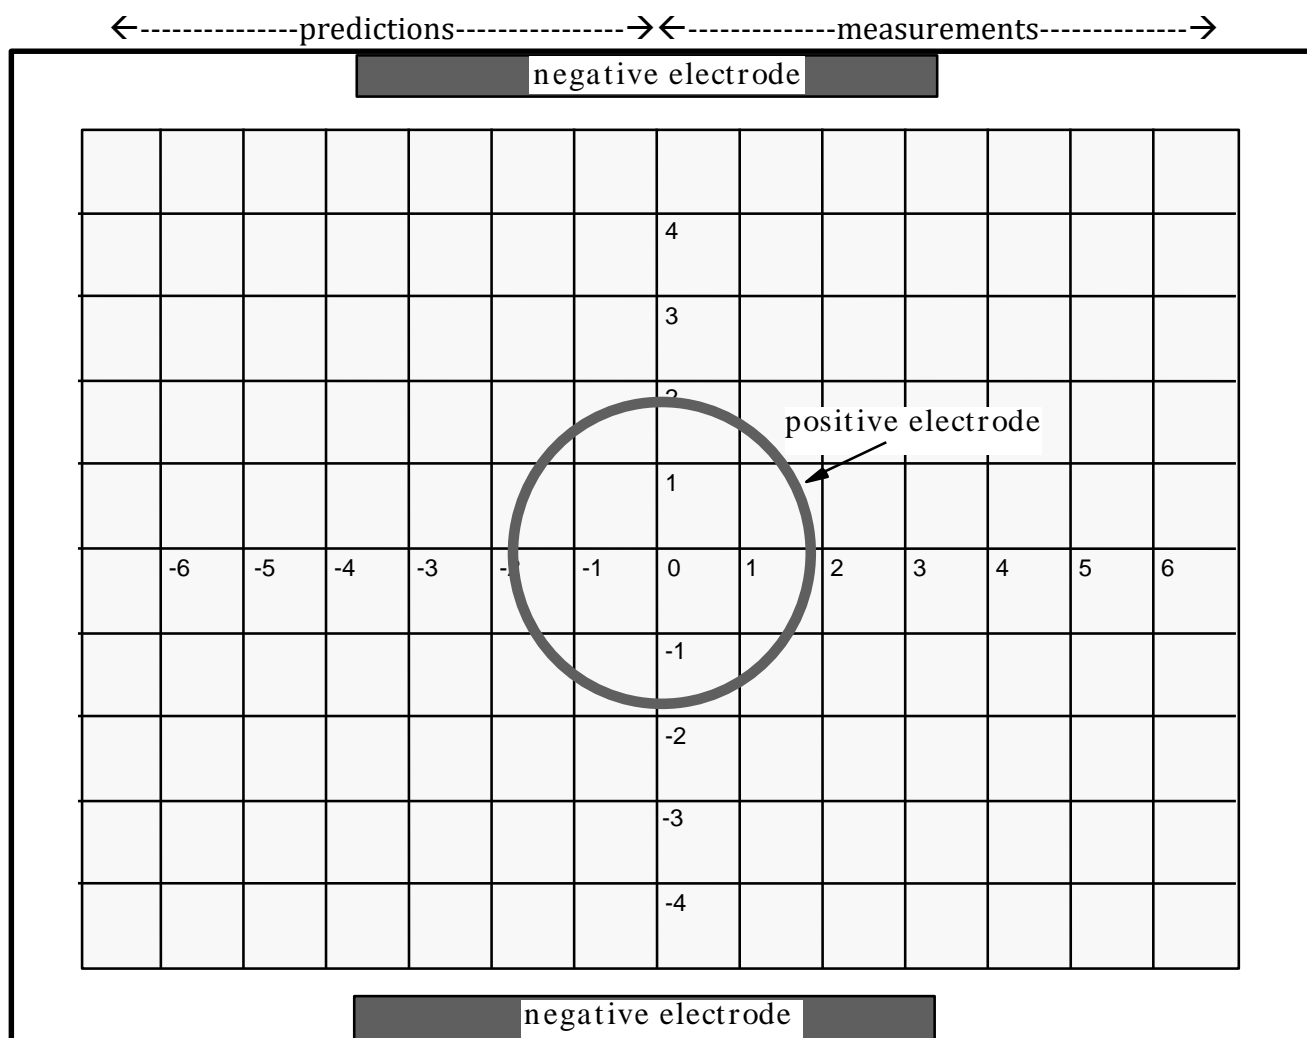

Figure 5. Two parallel "negative" plates with a "positive" hollow ring inside
- Use an additional wire and push pin to connect the two plate electrodes to the black wire from the supply. (Of course, the colors of the cables do not *really* matter!) Make sure your electrodes have potentials that correspond to the charges in Figure 5.
Prediction Predict and sketch several electric field lines on the left side of Figure 5. Include the region between the plates and inside the ring. Remember that the ring here is configured to act as if it contains a positive charge, and that each plate has a negative charge. Be sure to include the regions inside and outside the ring.
Describe briefly how the central charge has affected the equipotential and field lines. What features of the new field are similar to the field in Figure 5? What has changed?